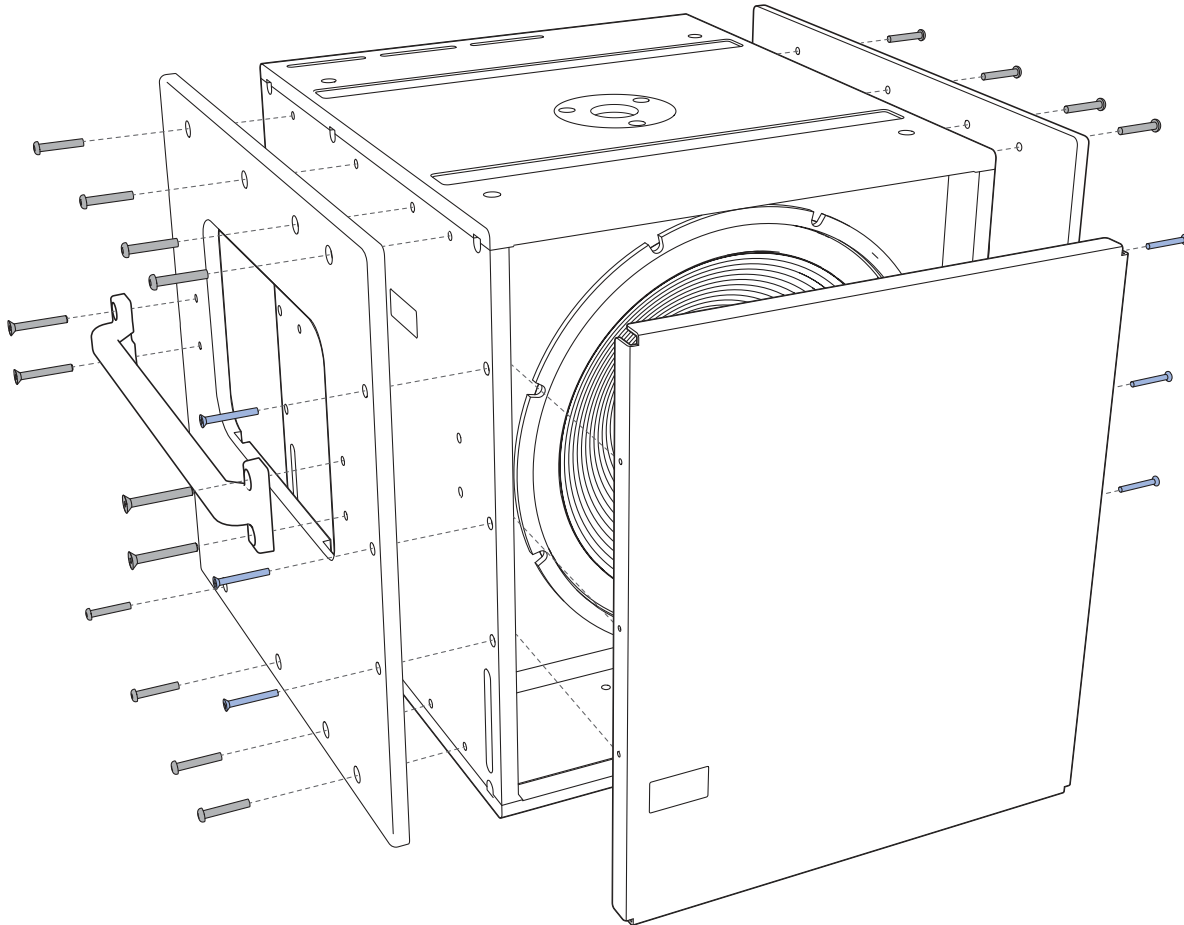

Figure 1: Removing Existing End Frames and Grille
1. Remove the standard end frames and temporarily remove the grille frame (Figure 1):